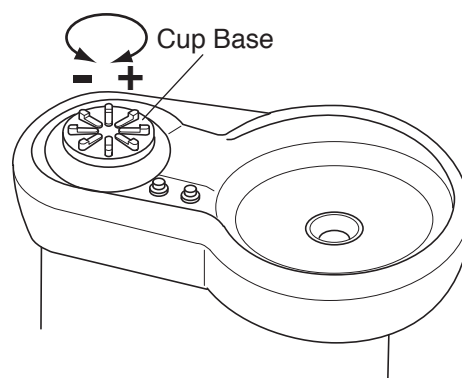

Fig.3-12 Automatic Cupfiller
9. AUTOMATIC CUPFILLER & BOWL FLUSH (OPTION) (Fig.3-12)